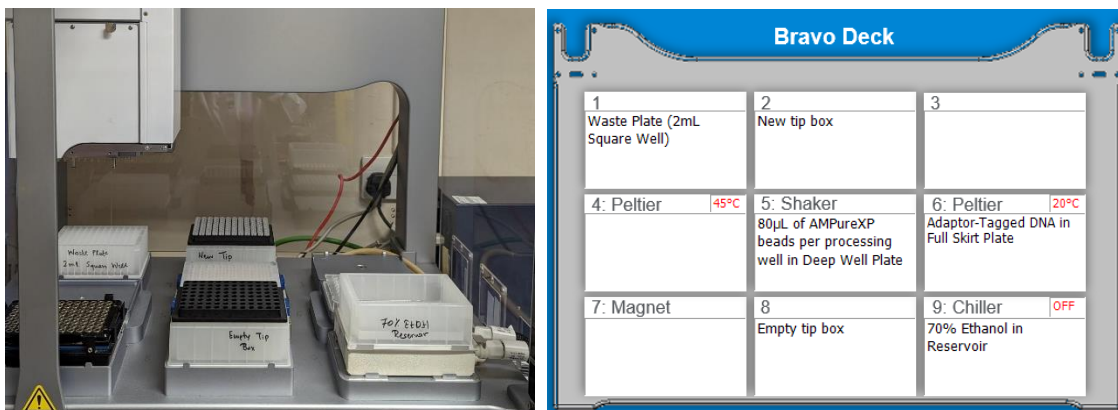

Figure 4. Example of the Bravo deck preparation and computer screen for 02 Cleanup_LibPrep_XT_HS2_ILM.
10. Verify that the Bravo deck has been set up as displayed on the right side of the form, as on **Figure 4**.